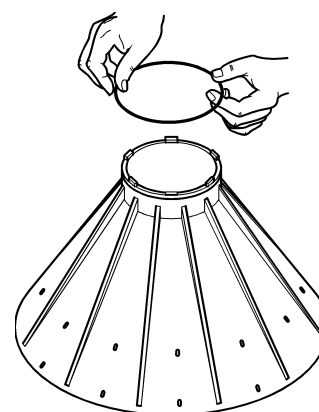

Figure 6.11
- 9) After carefully cleaning the groove, insert the **OR gasket** on the finned upper disk (Fig. 6.11).